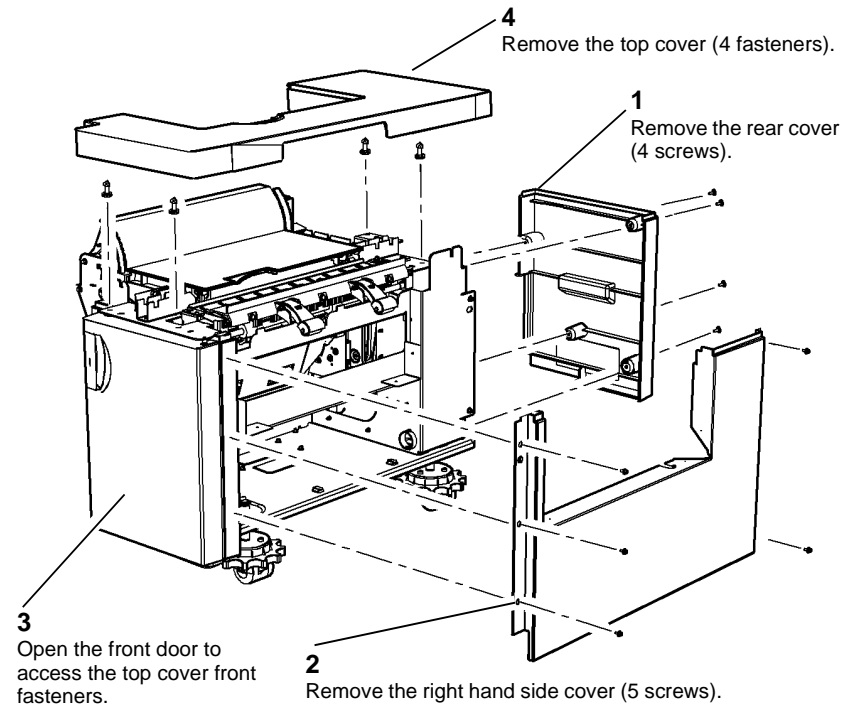

Figure 2 Top, rear and right side covers
2. Remove the rear cover, the top cover and the right side cover as necessary, Figure 2.